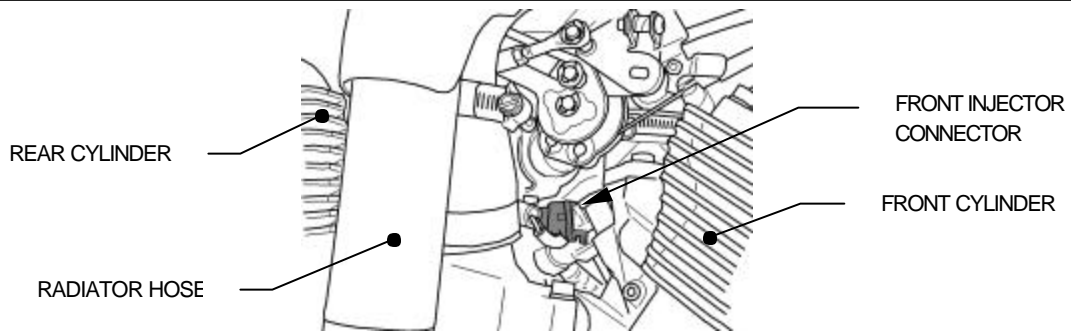

FIGURE 2
3. Locate the factory connector on each fuel injector (see figure 2 and 3). Depress the wire clip on the rear injector and pull the connector free and move out of way. Now remove the front connector out of the way. The wires are clearly marked as to front and rear cylinder. **Note:** A pair of needle nose pliers and a long flat blade screwdriver helps with this job.
4. Attach the Fi2000 module's forward injector plug, with the gray and red wires, onto the front injector. Then take the original HD front connector and insert the corresponding Fi2000 connector, with the brown and red wires, into it. Any extra wire and connection you just made place down and under the rear injector. (see figure 2)